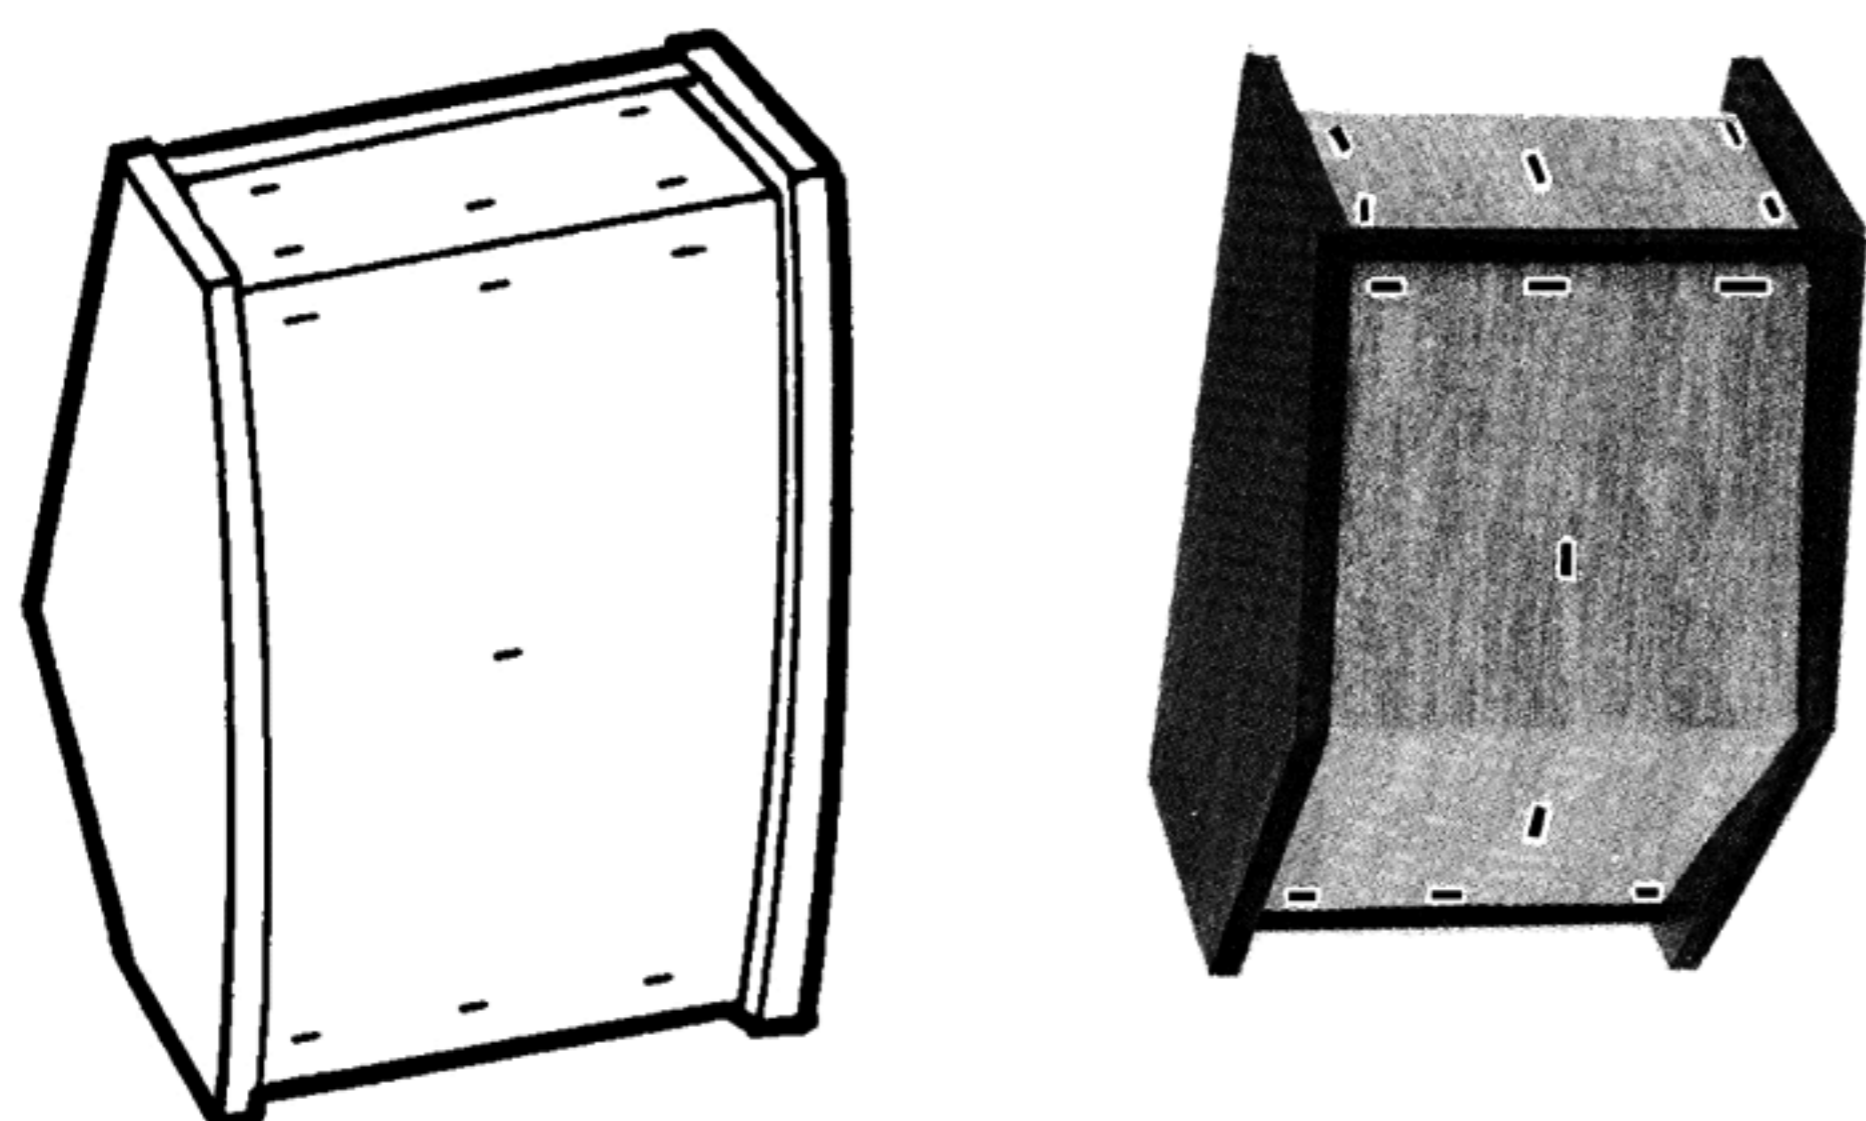

Figure 2. Staple Location
1.1 Locate the staples that secure the front or rear grille assembly. Refer to Figures 2 and 3 for the staple placement and tool for removing the staples.